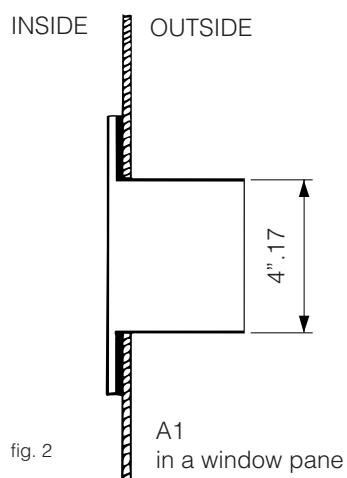

fig. 2
- Ensure that intake and outlet vents (fig. 2 and 3) are not blocked.